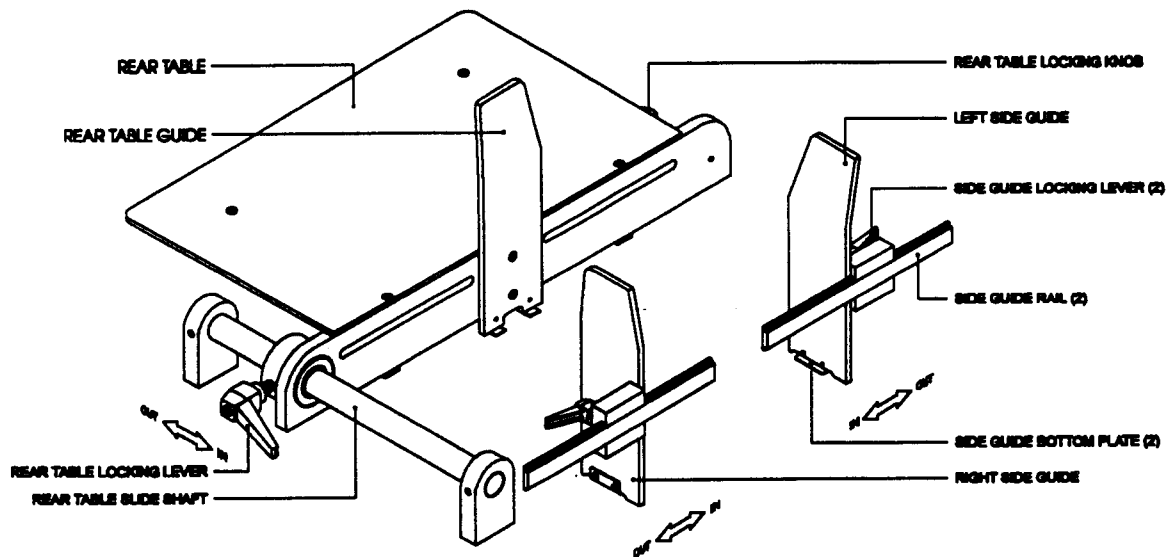

Figure 2.5 - Rear table and side guide illustration indicating the various adjustment points when setting up the hopper material guides.
☛ To Set the Feeder Side Guides (see figure 2.5)
☛ To Set Rear Table (see figure 2.5)
8. Set the rear table as per instructions provided in ☛ *To Set Rear Table (see figure 2.5)*. Ensure that the rear pushers do not remain under the mailpiece stack when the shuttle plate is fully back. If the pushers do in fact remain under the bottom mailpiece, repeat steps 2 to 7.